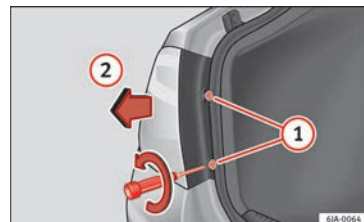

Fig. 98 Remove the rear light unit from side panel.
- Take the screwdriver or a Torx 20 key (T20) from the vehicle tool kit and loosen (turning anti-clockwise) and remove the two retaining screws that secure the front of the light » **Fig. 98 ①**, taking care not to lose them.
- Pull the rear light unit backward (» Fig. 98 ②) to remove the light from its housing.